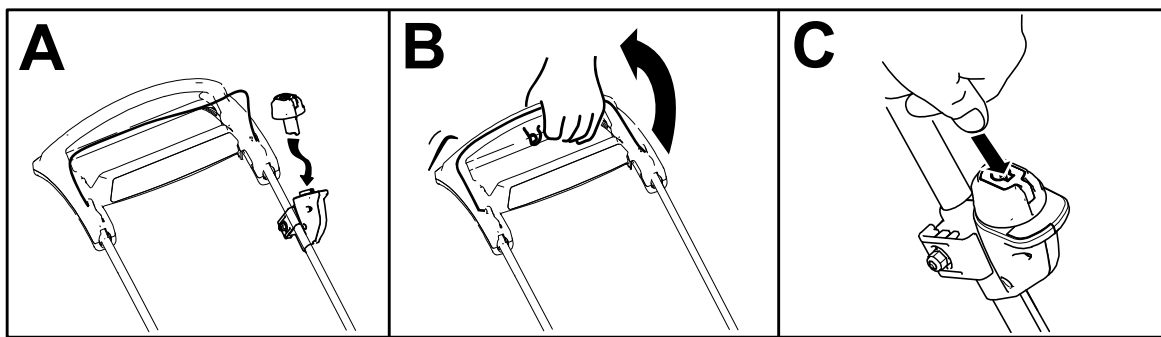

Figure 10
2. Insert the electric-start button into the electric-starter switch (A of Figure 10).
3. Squeeze the blade-control bar and hold it to the handle (B of Figure 10).
4. Press the electric-start button and keep it pressed until the motor starts (C of Figure 10).